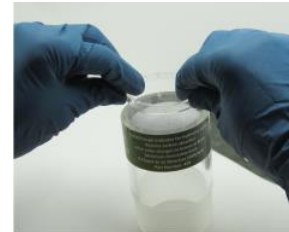

Figure 8
1.5. Carefully remove the top retainer and top porous plug (Figures 8 & 9) 4
1.5. Carefully remove the top retainer and top porous plug (Figures 8 & 9)